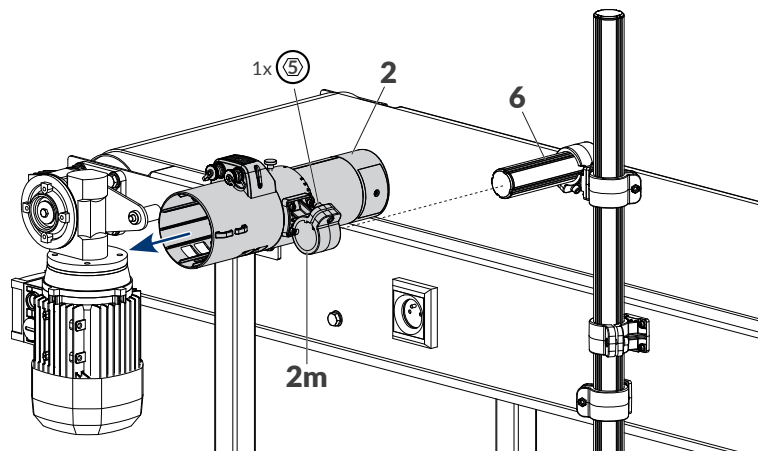

Fig. 69.
9. Install a spare/refurbished integrated printhead **2** on beam **6** (see Fig. 69). Use the #5 angle hex (Allen) key to tighten the screw that is part of holder **2m**, clamping the holder to integrated printhead beam **6**.